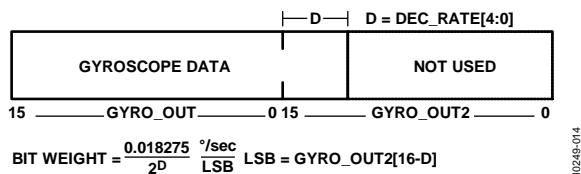
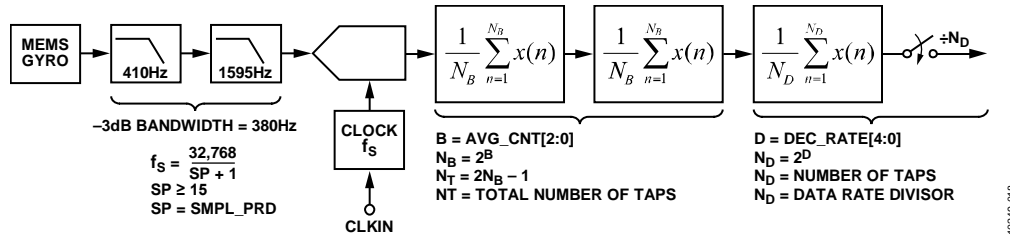

Figure 14. Gyroscope Output Format, DEC_RATE[4:0] > 0
Figure 18. Sampling and Frequency Response Block Diagram
The GYRO_OUT2 register (see Table 11) captures the bit growth associated with the decimation and FIR filters that are shown in Figure 18 using a MSB justified format. The bit growth starts with the MSB (GYRO_OUT2[15]), is equal to the decimation rate setting in DEC_RATE[4:0] (see Table 18), and grows in the LSB direction as the decimation rate increases. See Figure 14 for more details.
Figure 18 provides a block diagram for the sampling and digital filter stages inside the ADIS16136. Table 15 provides a summary of registers for sample rate and filter control.
[15:0]	Clock setting bits; sets f_s in Figure 18
The AVG_CNT register (see Table 17) provides user controls for the low-pass filter. This filter contains two cascaded averaging filters that provide a Bartlett window FIR filter response (see Figure 18). For example, set AVG_CNT[7:0] = 0x04 (DIN = 0xA004) to set each stage to 16 taps. When used with the default sample rate of 1024 SPS, this establishes a –3 dB bandwidth of approximately 24 Hz for this filter.
[2:0]	Binary; B variable in Figure 18; maximum = 110 (6)
The DEC_RATE register (see Table 18) provides user control for the final filter stage (see Figure 18), which averages and decimates the output data. For systems that value lower sample rates, this filter stage provides an opportunity to lower the sample rate while maintaining optimal bias stability performance. The –3 dB bandwidth of this filter stage is approximately one half the output data rate. For example, set DEC_RATE[7:0] = 0x04 (DIN = 0xA204) to reduce the sample rate by a factor of 16.
[4:0]	Binary; D variable in Figure 18; maximum = 10000 (16)